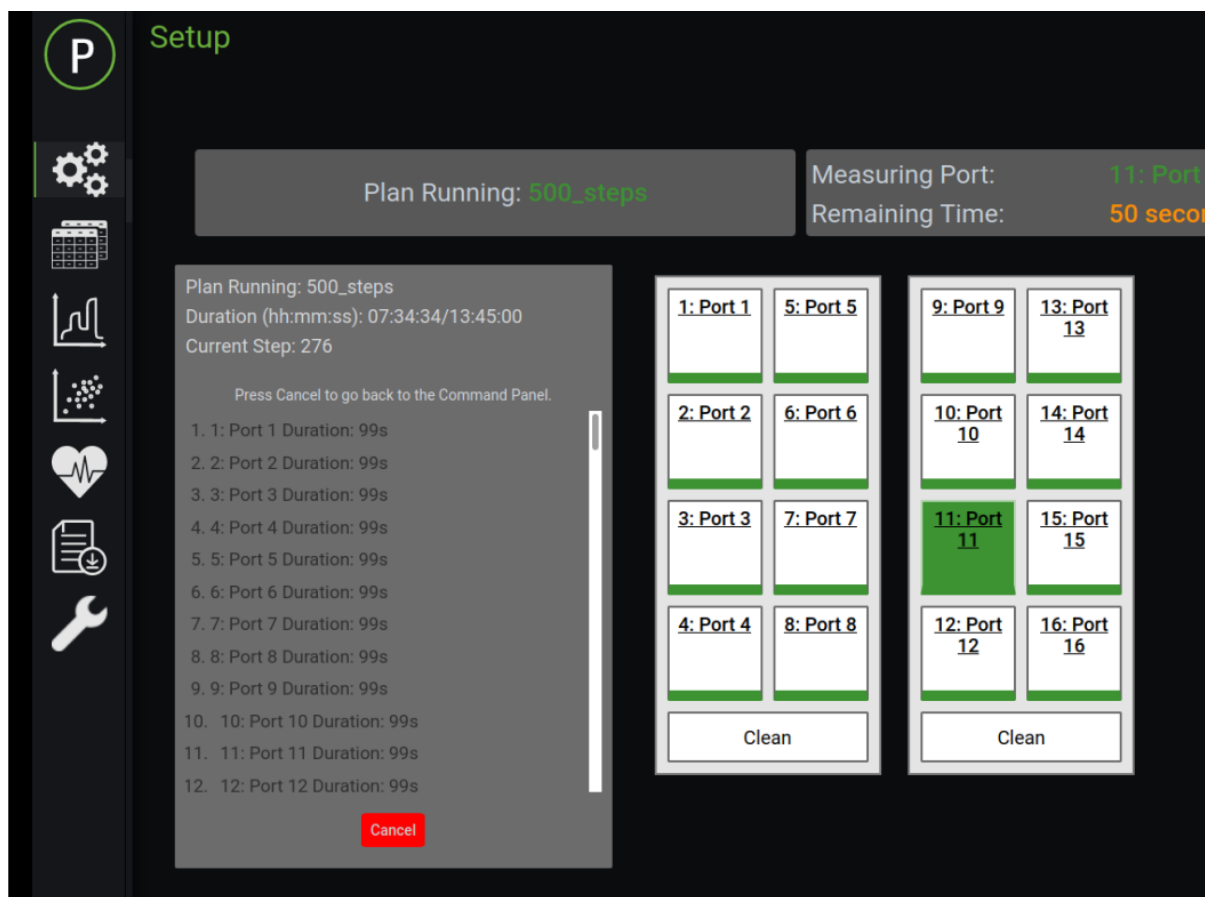

Figure 23: View Running Plan Displayed
16. When you click the **View Running Plan** button, you can see the plan that is currently running as shown below in Figure 23. Pressing cancel returns you to the Setup/Command Panel.